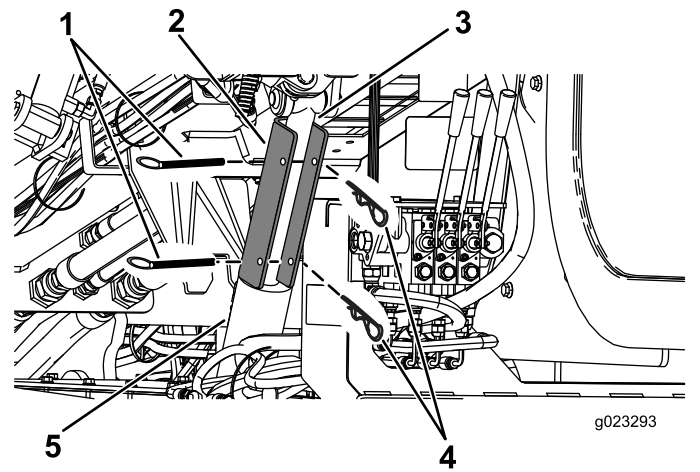

Figure 73
4. Position the cylinder lock over the cylinder rod (Figure 73).
5. Secure the cylinder lock with the cotter pin and clevis pin (Figure 73).
4. Remove the cotter pin and the clevis pin that secure the cylinder lock (Figure 73).